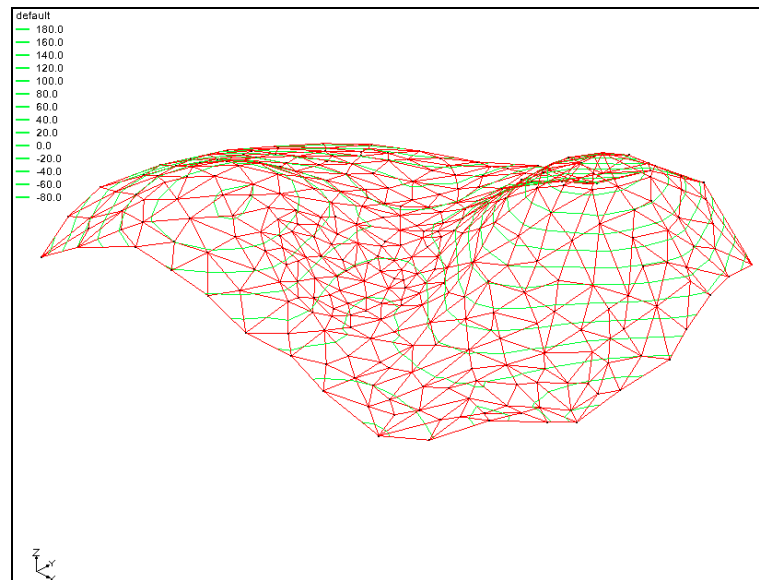

Figure 6 The Graphics Window after the Display Options are reset
8. Click **OK** to exit the *Display Options* dialog. The Graphics Window should appear as in Figure 6.